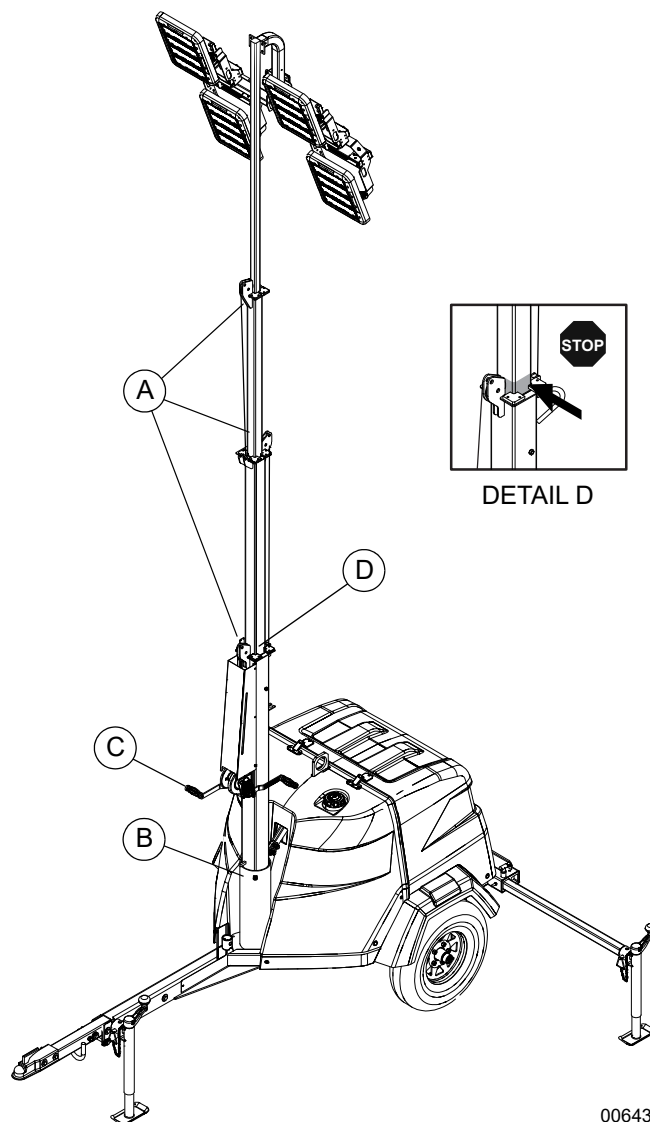

Figure 3-2. Pulley Locations - Manual Winch
2. See **Figure 3-2**. Inspect the mast cables for excessive wear or damage. Verify the cables are properly centered in each pulley (A). Inspect the electrical cord for damage.